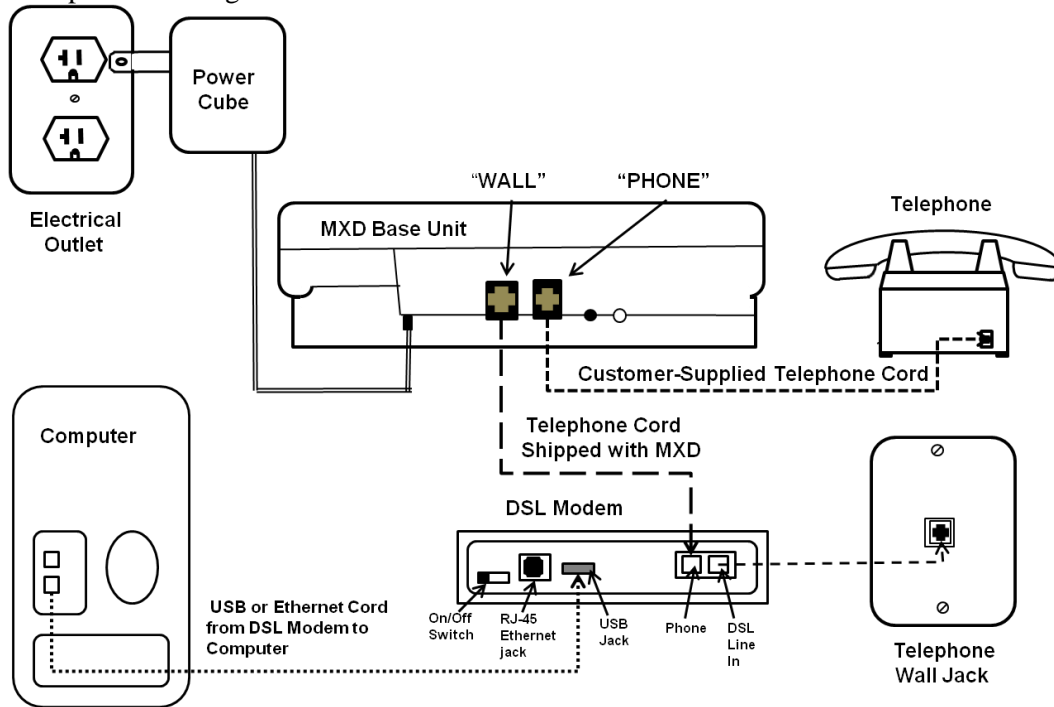

Figure 8. MXD Connection to DSL Modem
- 3. Configuration 3. Alternative approach if neither of the above configurations works.** If the MXD cannot communicate with the response center using Configurations 1 or 2, you may be able to connect the MXD unit into a phone jack built into the DSL Modem, which should be located near your computer. See Figure 8 below.